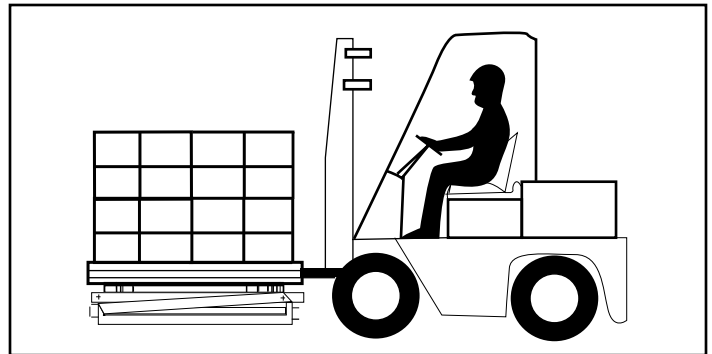

Figure 9- Loading with a Forklift
1. Place the load on the lift, then lower the forklift. Before removing the load, make sure the positioner is carrying the weight, not the forklift. (See Figure 9).